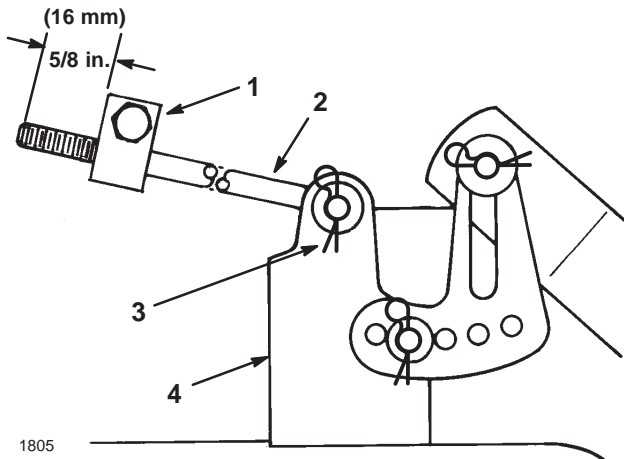

Figure 48
9. Measure the length of the rod extending out of the front of the adjusting block on the sides of the chassis (Fig. 48).
Note: If the rod length is not 5/8 in. (16 mm), remove the hairpin cotter and washer from the end of the rod (Fig. 48) and turn the rod until you obtain the 5/8 in. (16 mm) dimension.